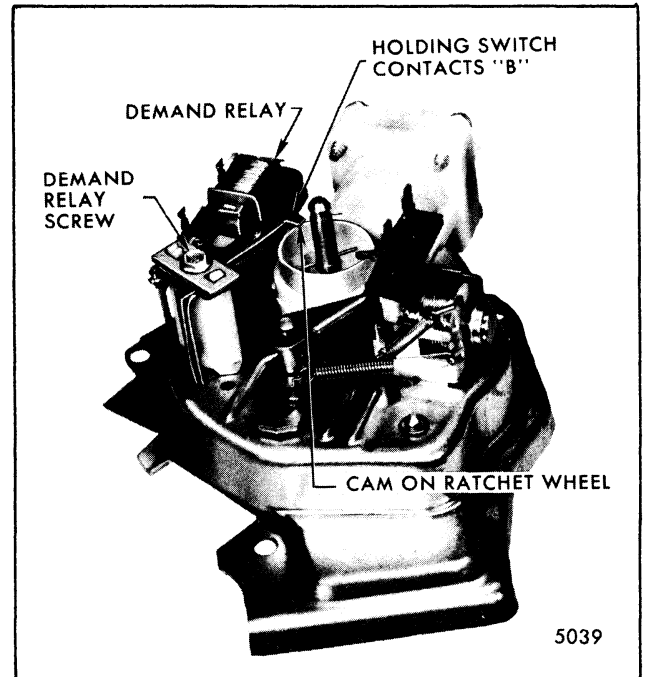

Fig. 2-78-Ratchet Wheel Cam
- b. The cam on the edge of the ratchet wheel opens holding contacts "B" (Fig. 2-78). However, contacts "A" are still closed at this stage of operation. With contacts "A" still closed, the gear box relay coil is still energized completing the feed circuit to the motor windings, and the motor continues to run.
2. Remove holding switch retaining screw and lift the holding switch assembly and demand relay assembly off the pump mounting surface (Fig. 2-78). Separate relay assembly from holding switch.